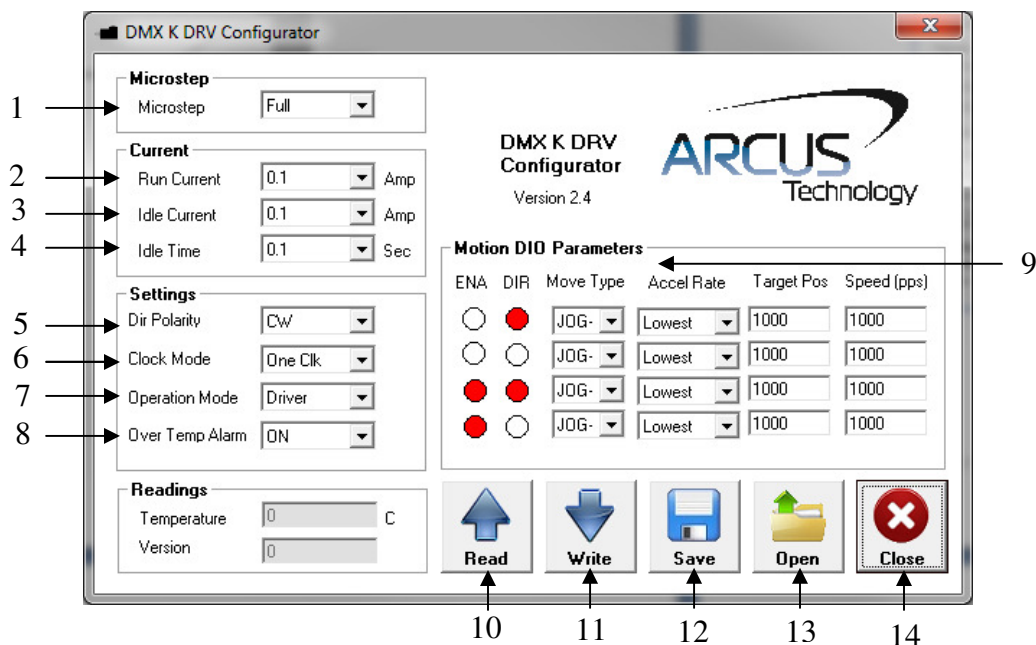

Figure 7.0
See the DMX-CFG-USB Cables manual for details on configuration. Figure 7.0 shows the configuration interface.
8. **Over Temperature Shutdown** - Determines whether or not the DMX-K-DRV-17 disables when the temperature rises above a specified threshold. See Figure 7.0 for details.